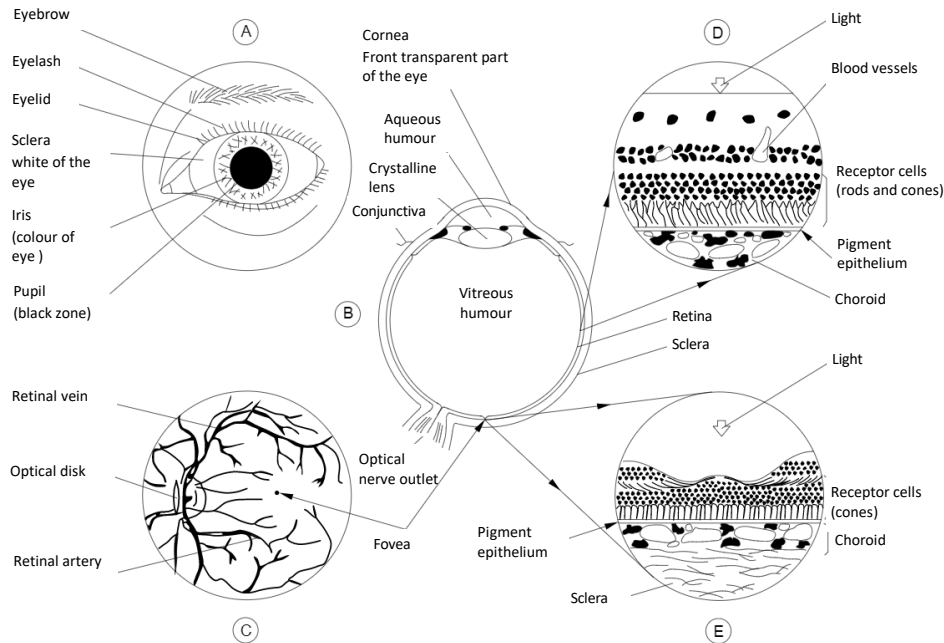

Fig. 4-2 – Physiology of the human eye
Section (A) of Fig. 4-2 illustrates a diagram of a left eye external structure.
Section (D) illustrates the structure of the retina as it is seen on the section of its surface shown in Fig. 4-2 (B), but enlarged several hundred times as to the natural size. The retina is composed of several layers of nerve cells that cover the photo-sensitive cells: the cones and the rods; that is to say, the light that arrives on the retinal surface has to pass the layers of the nerve cells before reaching the photo-sensitive calls. Under the layer of cones and rods there is a layer called pigment epithelium that contains a melanin brownish-black pigment that contains both pigmented cells and blood vessels.
Fig. 4-2 contains a brief description of the eye anatomy. The eye is particularly suitable to receive and transfer optical radiations.